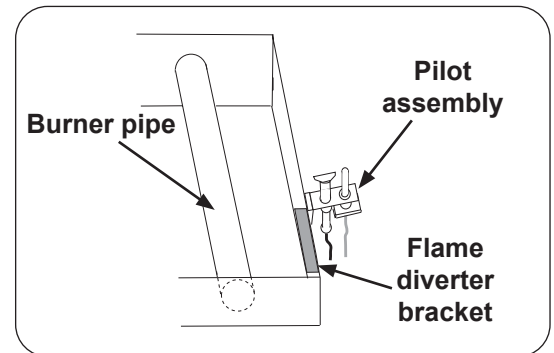

Fig. 5-1 Proper line and tube orientation
2. Carefully bend the thermocouple lead and the pilot gas supply line so the pilot assembly is positioned as shown in Fig 5-1.